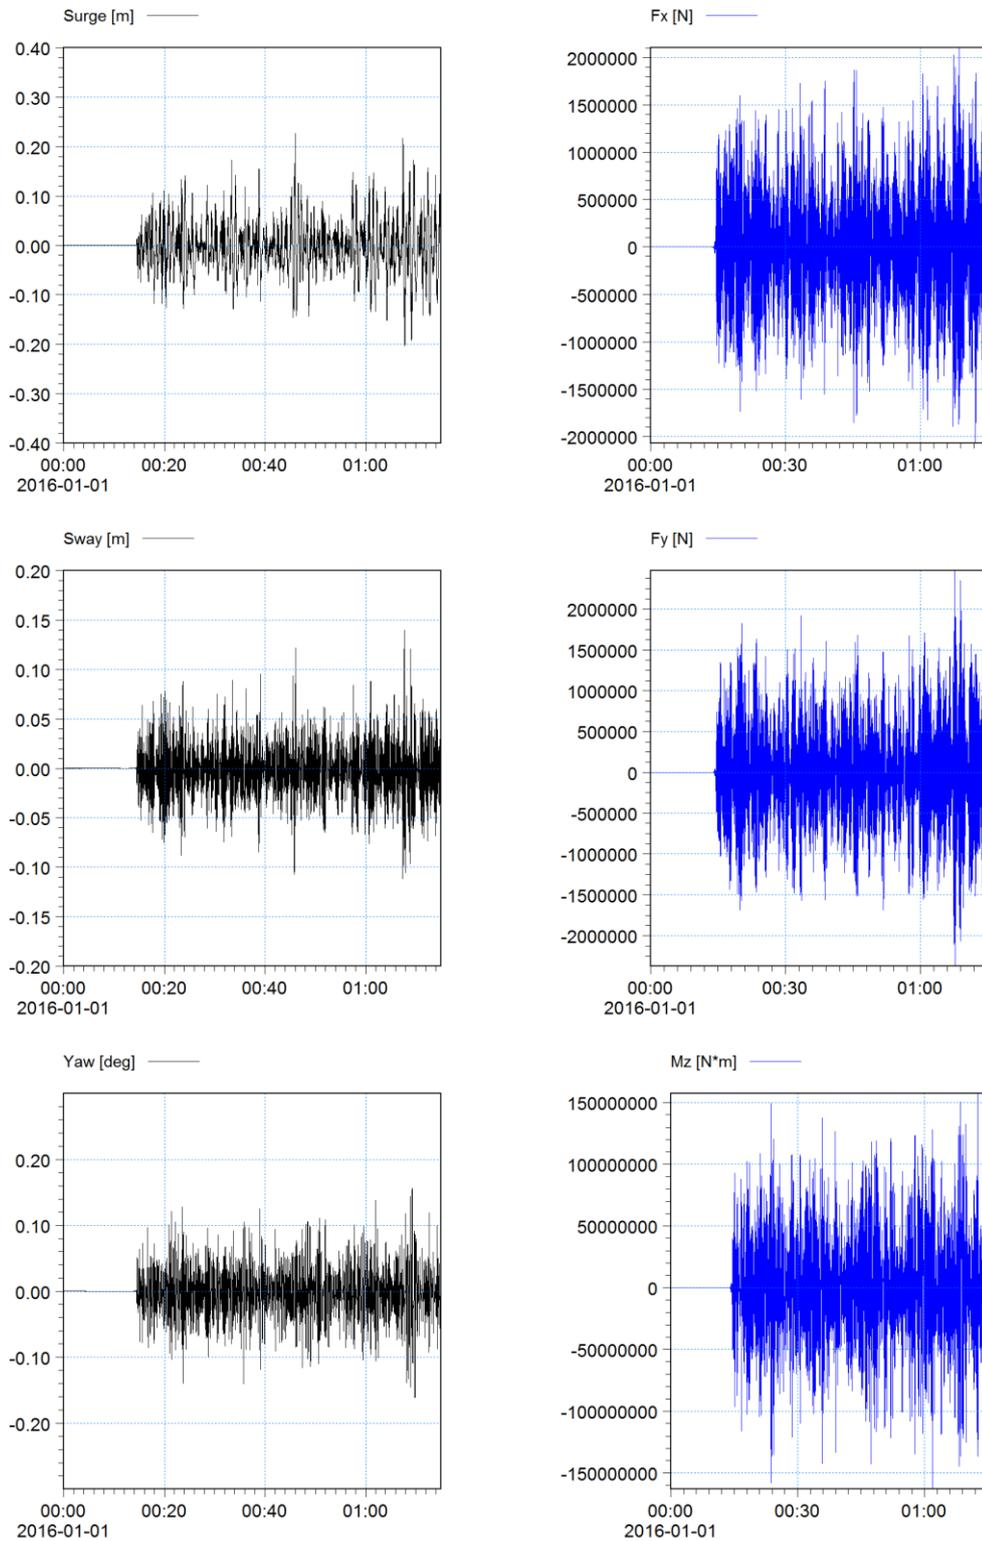

Figure 2.18 Time series of vessel motions and diffraction forces
8. Select item 1 – 'Surge'
10. Repeat the steps 6-10 for the remaining 5 windows and plot items: sway and yaw (from output file: DHI\_Vessel\_motions.dfs0) and Fx, Fy and Mz (from output file: DHI\_Vessel\_diff\_forces.dfs0). The final plots are shown in Figure 2.18.